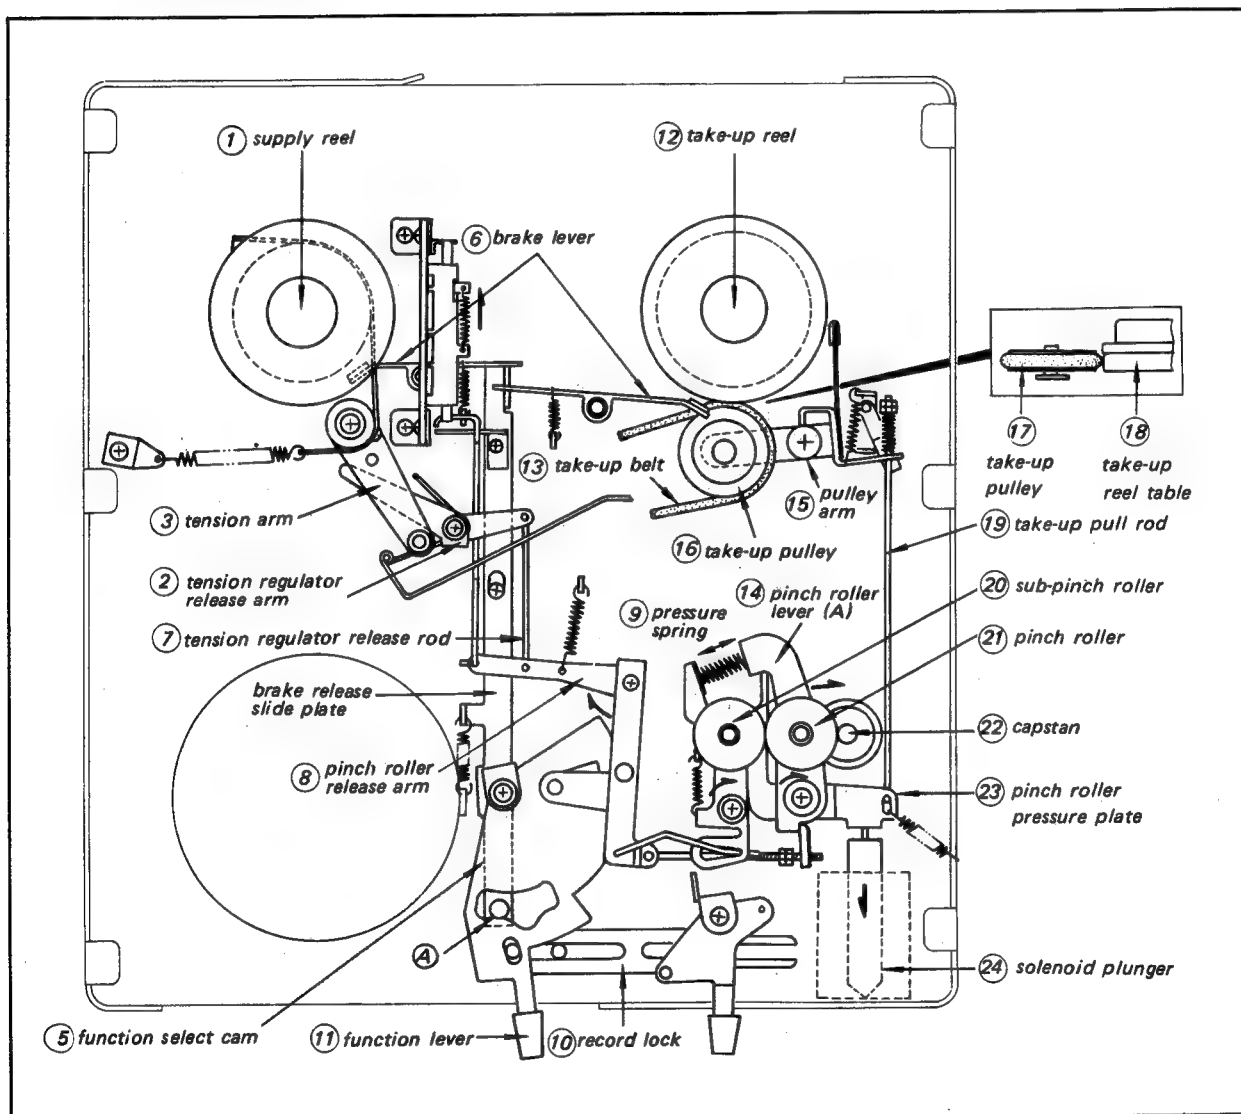

Fig. 9-3 Forward mode tape transport
The brakes applied to the Supply and Take-Up Reel Tables in the stop mode are released in the play mode. See Fig. 9-3.
Pinch Roller pressure is applied against the Capstan when the Solenoid is energized. Refer to Fig. 9-3. When power is applied to the Solenoid, the plunger moves in the direction indicated by the arrow, rotating the Pinch Roller Pressure Plate clockwise and thus compressing the Pressure Spring. This causes Pinch Roller Lever (A) to rotate clockwise, forcing the Pinch Roller against the Capstan.
A simple mechanical servo is employed to provide tape tension control. See Fig. 9-3.
The audio dub mechanism may be operated only in the play mode. See Figs. 9-3 and 9-5.